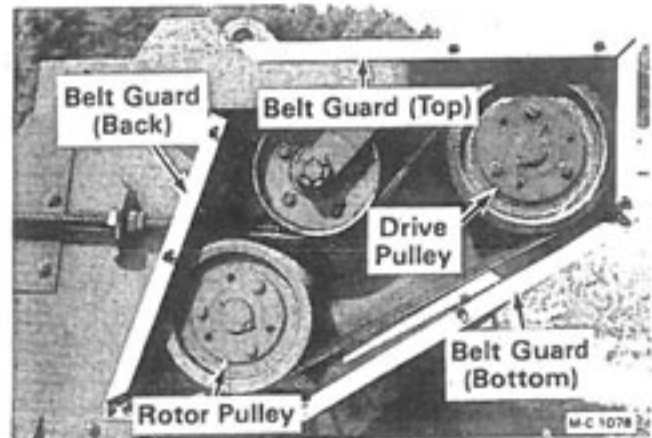

Figure 32 - Idler Push Rod Ass'y. Above S/N 50438
1. Remove the belt guard cover and place a straight edge across the face of the drive and rotor pulley, see Figure 32.